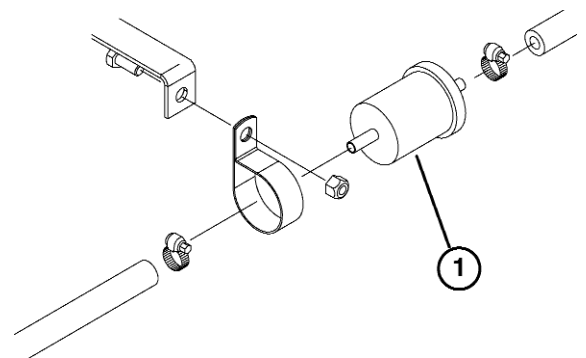

Figure 27
Replace the fuel pre filter (Fig. 27), located between the fuel tank and the fuel pump, after every 400
1. Clamp both fuel lines that connect to the fuel filter so fuel cannot drain when you remove the lines (Fig. 27).